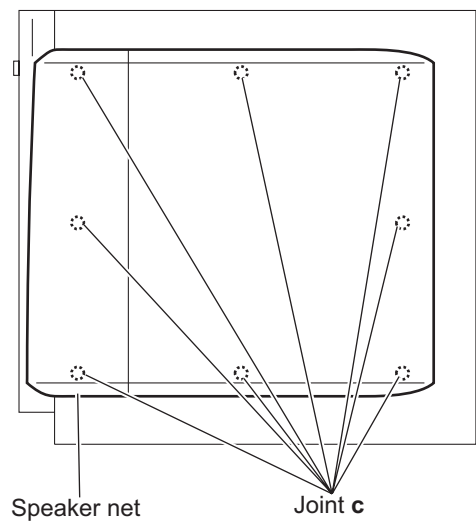

Fig.17
- (2) From right side of the speaker main body, release the eight joint **c**, and take out the speaker net from the speaker main body. (See Fig.17)